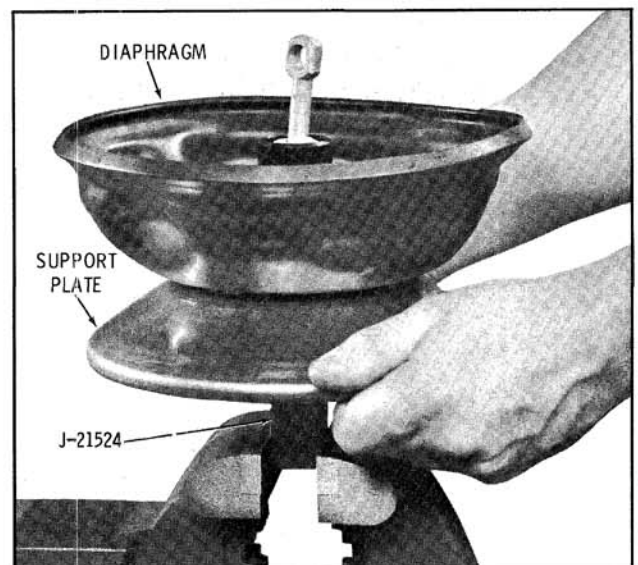

Fig. 11-35 Removing Support Plate
4. Fold the diaphragm away from the support plate so that the hands can grip the steel support plate and rotate support plate counterclockwise until the support plate separates from the vacuum piston. (Fig. 11-35)